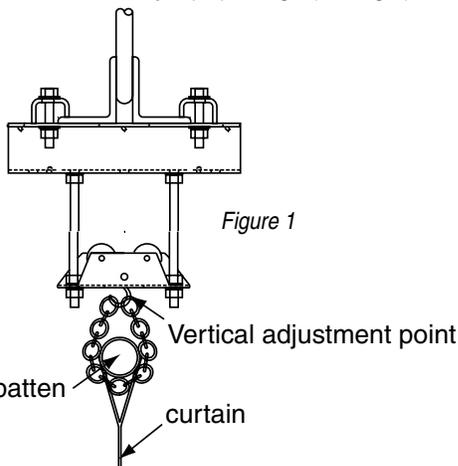
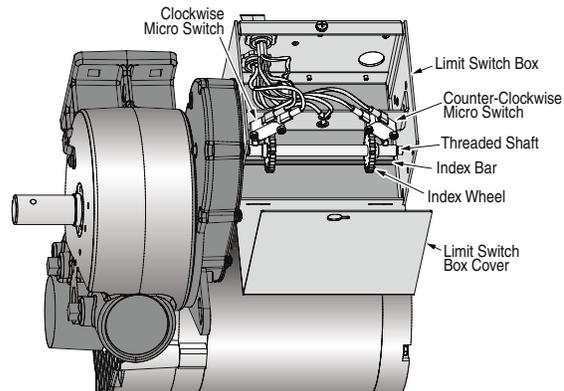

Figure 1
Figure 5
- ① Verify overall height and width with shop drawing to determine possible discrepancies.
- ② Attach winch support angles to winch plate and install winch per location shown on shop drawing.
- ③ Install drive pipe support assembly angles per location shown on shop drawing.
- ④ Attach drive pipe support assemblies to angles with threaded rod. Adjust assemblies vertically to proper height (See Fig. 1).
- ① Operate curtain up to the stored position and set limit (see Fig. 5). Operate curtain to the down position and set limit.
- ② Adjust spacing between cable guide sleeves to obtain a level lift of the curtain.
- ③ There are two basic vertical adjustments to this divider. One is the threaded rods attaching the drive pipe support assemblies to the drive pipe support angles. The other is the chain from the drive pipe support assembly to the top of the curtain (see Fig. 1).